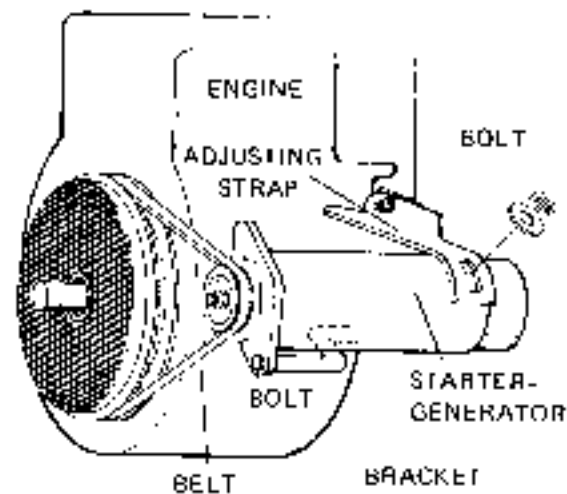

FIG. 9
**Adjustment** - To tighten, loosen the bolt in the bracket slightly, loosen the belt in the adjusting strap and swing the starter-generator away from the engine until the belt is tight. (Belt should deflect 1/4" when depressed with your thumb.) Tighten all bolts. (See Fig. 9)
**Removal** - Follow same procedure as above except when the bolts on the bracket and adjusting strap are loose, swing the starter-generator towards the engine until the old belt can be removed and replaced. Follow the above procedure for tightening the new belt. (See Fig. 9)